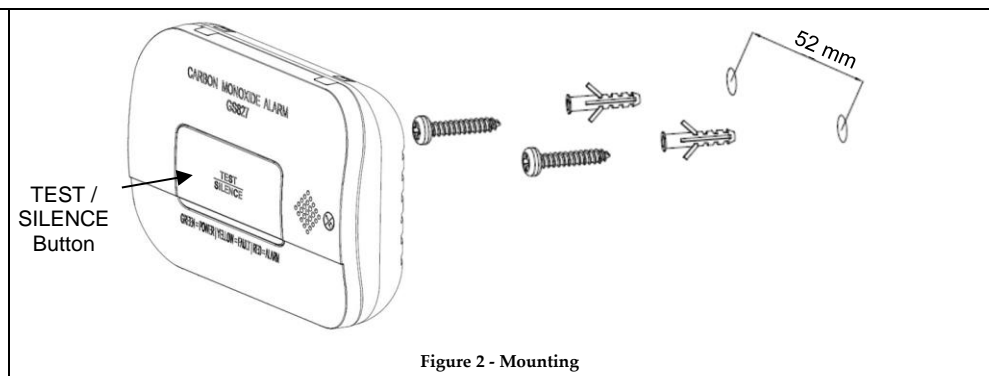

Figure 2 - Mounting
Step 3: Mounting (Figure 2)
3. Test the unit by pressing the TEST/SILENCE button (see Figure 2). Ensure the unit sound is of the alarm pattern.
To test the alarm, press and hold TEST/SILENCE button (see Figure 2). You should hear the alarm sound pattern with a corresponding ALARM indicator (red LED) flash and an alert message is sent to the system's receiver. The alarm sound patterns will stop when the TEST/SILENCE button is released.